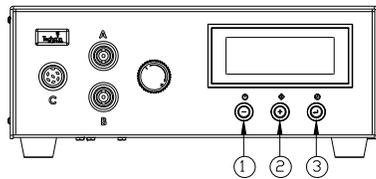

Figure 4.0
5.5 PSI or Bar Setting Cycle Counter Reset: (Refer to Figure 4.0)